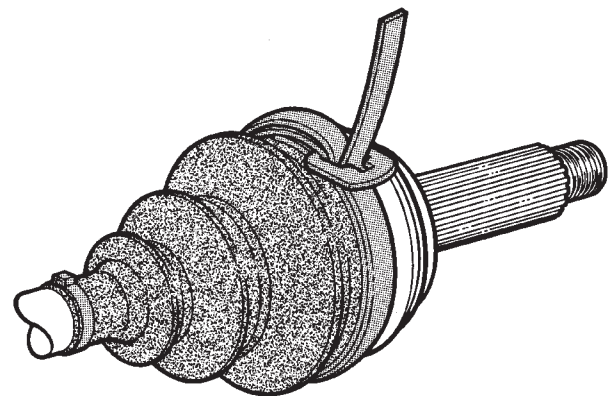

Fig. 5 Fold Strap Lightly to Keep Position
(7) Fold the strap back slightly to prevent it from slipping backwards (Fig. 5).